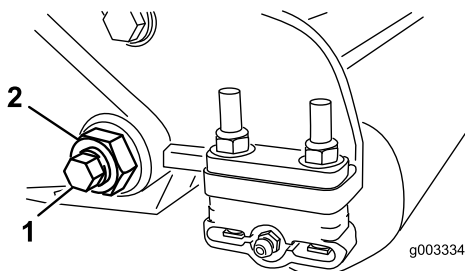
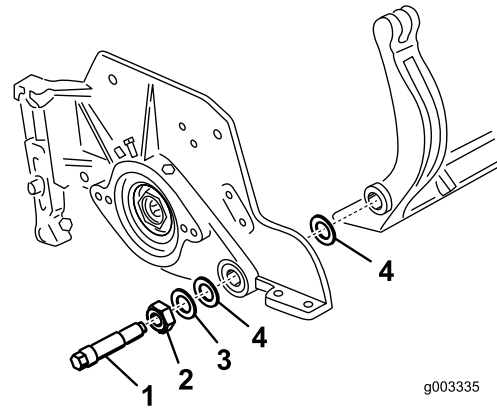
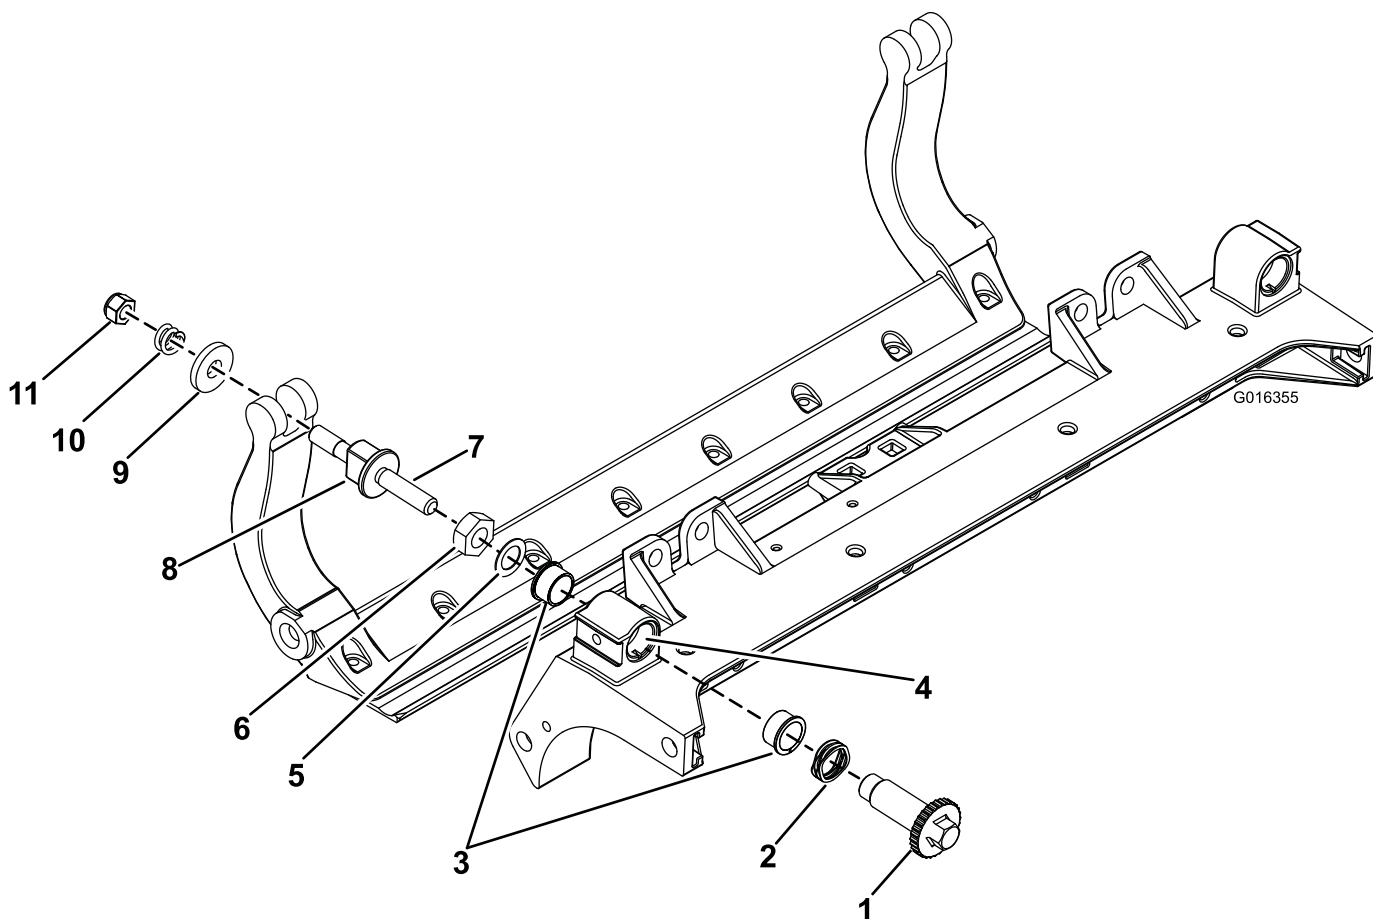

Figure 29
Figure 30
Figure 32
2. Back out the spring tension nut, until the washer is no longer tensioned against the bedbar (Figure 29).
3. On each side of the machine, loosen the locknut securing the bedbar bolt (Figure 29).
4. Remove each bedbar bolt allowing bedbar to be pulled downward and removed from machine bolt (Figure 29). Account for 2 nylon and 1 stamped steel washers on each end of bedbar (Figure 30).
2. Secure bedbar to each side plate with bedbar bolts (nuts on bolts) and 6 washers. A nylon washer is to be positioned on the each side of the side plate boss. Place a steel washer outside of the outer nylon washers (Figure 30). Torque bedbar bolts to 27-36 N-m (240-320 inch-lb).
1. Remove all parts (refer to *Installation Instructions* for HD DPA Kit Model No. 120–7230 and to Figure 32).
2. Apply Never Seize to the inside of the bushing area on cutting unit center frame (Figure 32).
3. Align the keys on flange bushings to the slots in the frame and install the bushings (Figure 32).
4. Install a wave washer onto the adjuster shaft and slide the adjuster shaft into the flange bushings in the cutting unit frame (Figure 32).
5. Secure the adjuster shaft with a flat washer and lock nut (Figure 32). Torque the lock nut to 20 to 27 N-m (15 to 20 ft-lb).
9. Secure the bedbar to each side plate with the bedbar bolts (nuts on bolts) and 6 washers. A nylon washer is to be positioned on each side of side plate boss. Place a steel washer outside each of the nylon washers (Figure 32). Torque bedbar bolts to 37-45 N-m (27-33 ft.-lb). Tighten locknuts until the outside steel washer stops rotating and end play is removed but do not overtighten or deflect side plates. Washers on inside may have a gap (Figure 30).